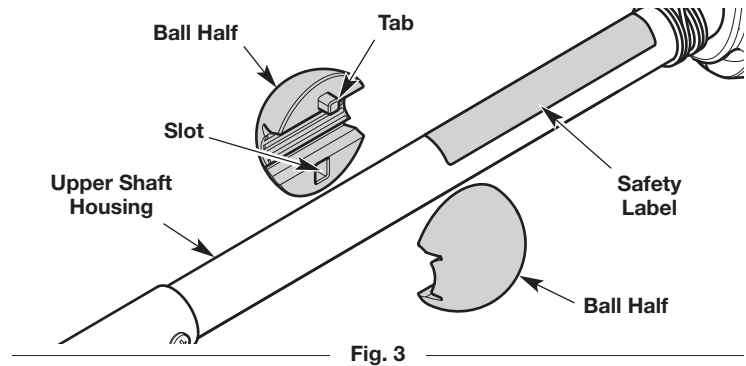

Fig. 3
1. Place a ball half on each side of the upper shaft housing (Fig. 3). Align each tab with its corresponding slot on the opposite ball half (Fig. 3). Hold the two halves together. Make sure the ball is positioned beyond the end of the safety label (Fig. 3).